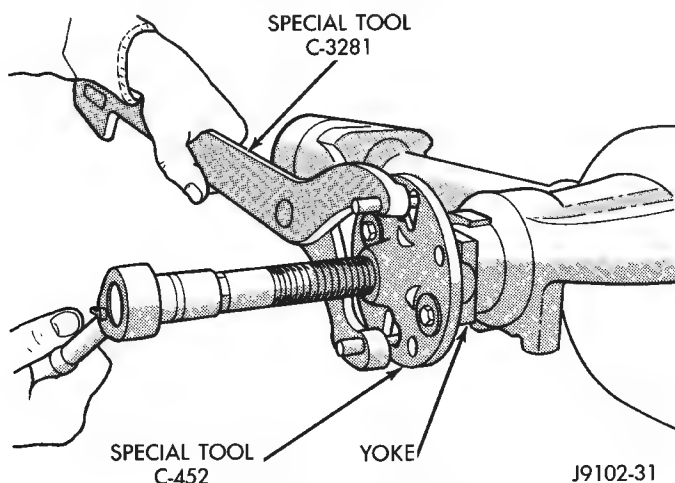

Fig. 2 Pinion Yoke Removal
- (1) Raise and support the vehicle.
- (2) Remove wheel and tire assemblies.
- (3) Mark the propeller shaft yoke and pinion yoke for installation alignment reference.
- (4) Remove the propeller shaft from the yoke.
- (5) Remove the pinion yoke nut and washer. Use Remover C-452 and Wrench C-3281 to remove the pinion yoke (Fig. 2).
- (6) Mark the positions of the yoke and pinion gear for installation alignment reference.